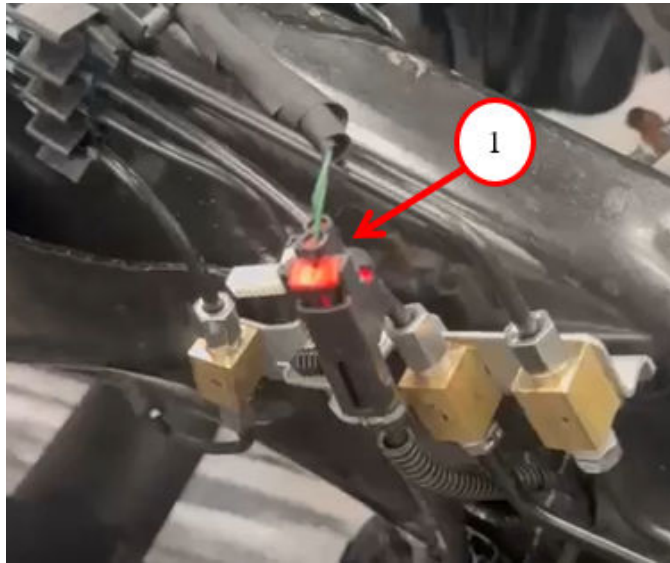

Fig. 4
5. Disconnect the Anti-Lock Brake System (ABS) wire harness connector Fig. 4.
13. Connect the ABS wire harness connector Fig. 4.